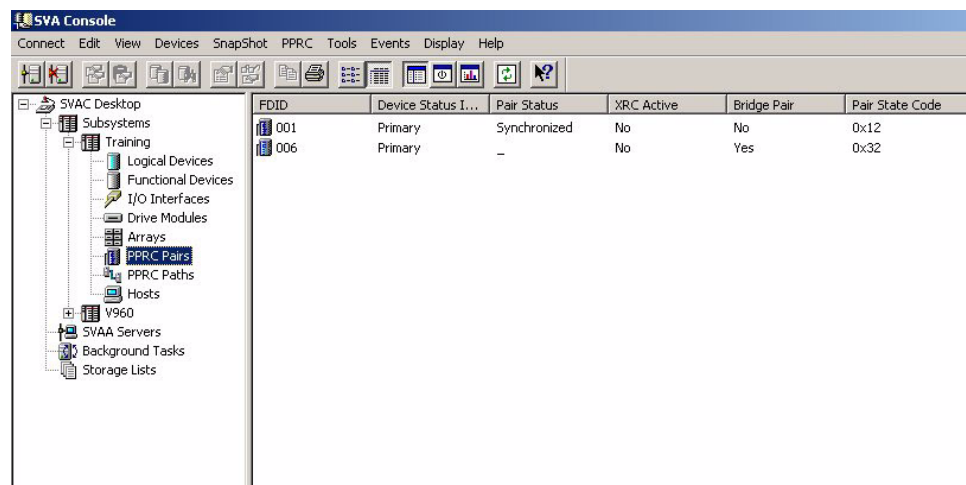

Figure 20 Main Menu with PPRC Pairs shown
14. The screen shown in Figure 20 appears, showing the PPRC pairs.